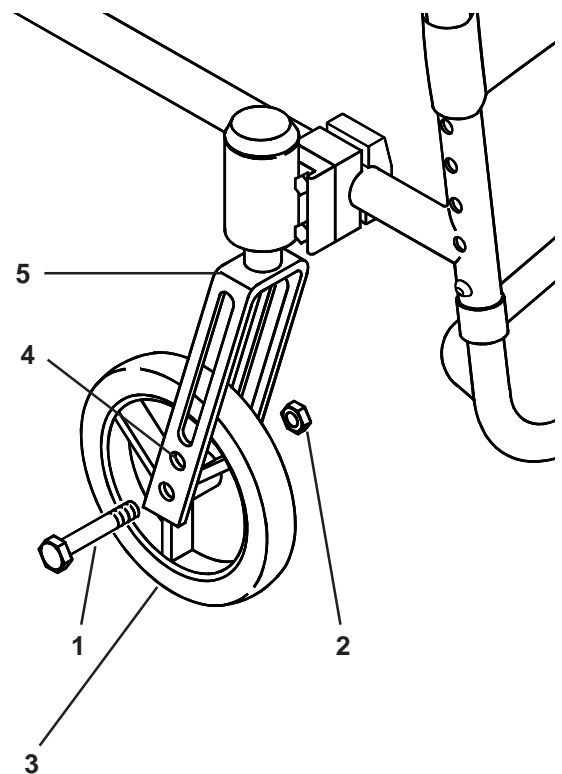
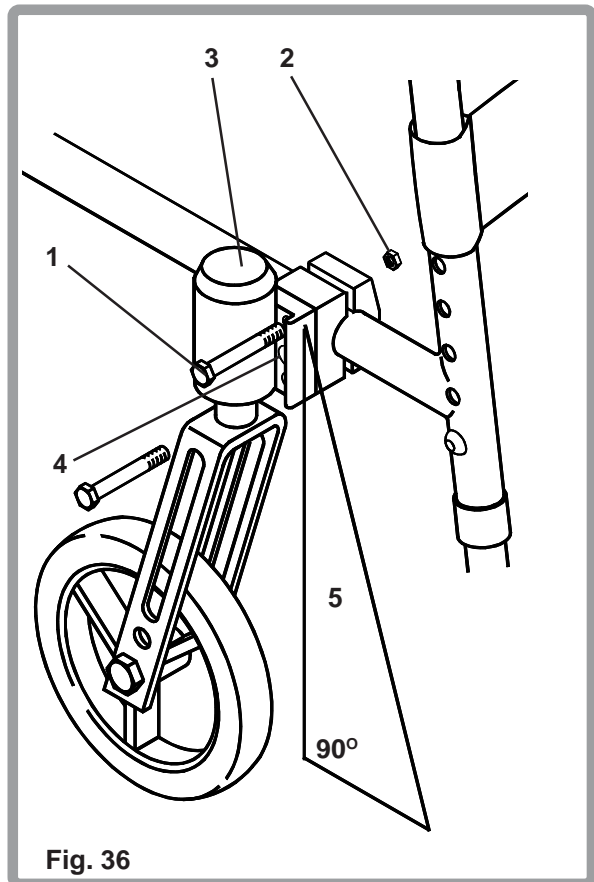

Fig. 35
Fig. 36
Angle of castors (Fig. 36)
Angle of castors (Fig. 35, page 29)
Two-hole castor forks (Fig. 35) allow you to interchange 125mm (5"), 150mm (6") and 200mm (8") castor wheels and to adjust the seat height. To adjust, remove the axle bolt (1) and nut (2) with 13mm A/F spanners and remove the castor wheel (3). Either change the castor wheel size and/or position the castor wheel upward or downward in the desired pre-drilled holes (4) 25mm (1") apart on the castor fork (5). Replace the bolt and tighten to 27Nm.
Place the chair on a flat surface (such as a table). Loosen the two eccentric bolts (1) and 10mm A/F nuts (2) that secure the castor assembly (3) (do not remove the clevis pin (4)). Using a large right angled object (5) placed on the flat surface and against the front of the castor bearing housing, align the castor housing perpendicular to the flat surface. When alignment is satisfactory, retighten the two eccentric bolts to 8-10Nm torque (Fig. 36). Repeat the process for the other castor.
To inside mount the castors (Fig. 38) reverse the positions of the castor assemblies. Remove the castor assemblies (1) from the frame (noting their positions). Inside mount the right castor on the left side and the left castor on the right side. For correct refitting follow the instructions on page 29 Fig. 35 and Fig. 36 (castor angle and/or forward/rearward placement).